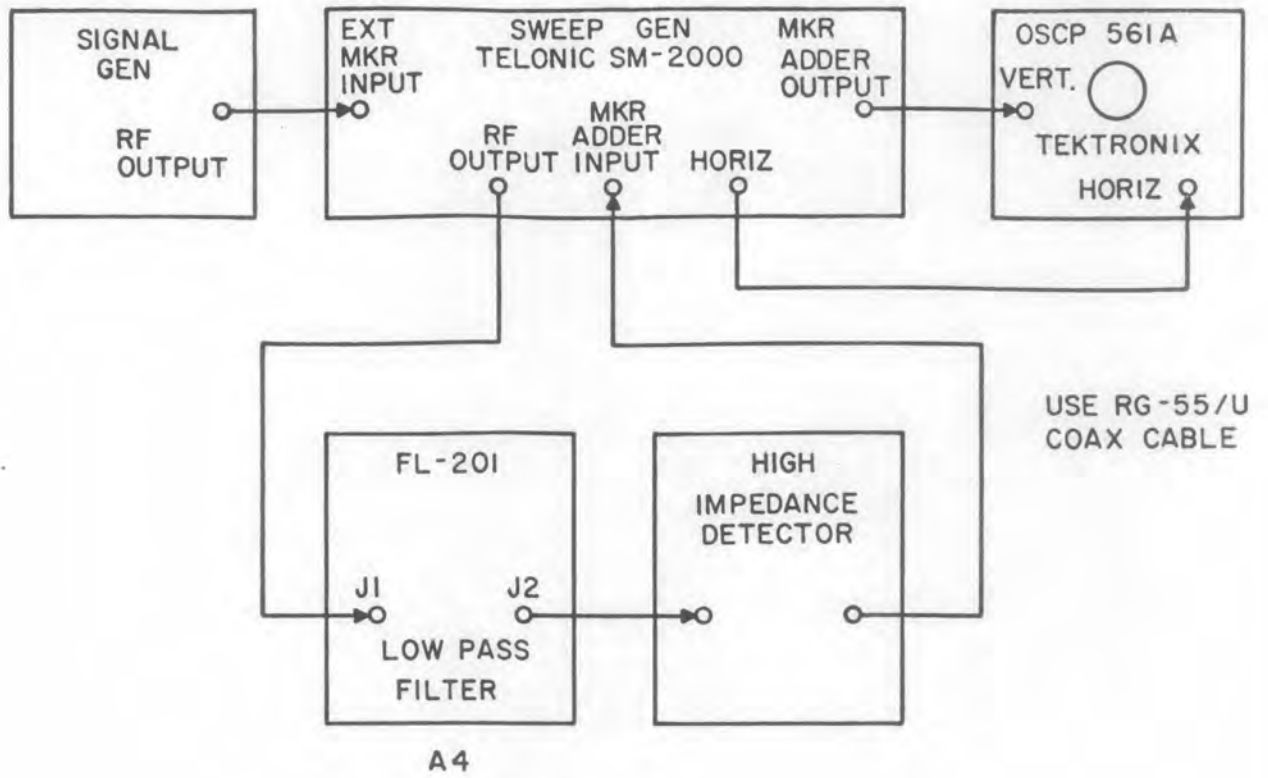

Figure 5-10. Low Pass Filter Test Equipment Setup
c. Connect test equipment as illustrated in Figure 5-10.